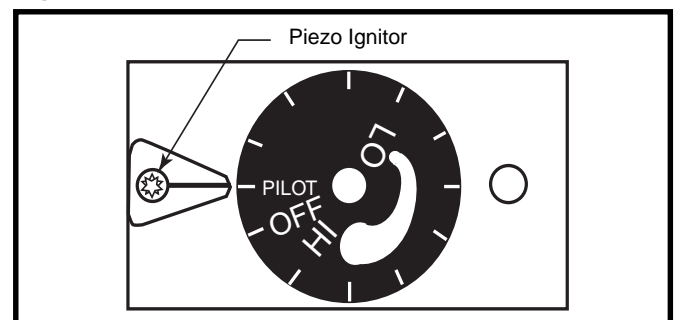

Fig. 23 UVS27M/ SIT Control Valve in Pilot position.
5. SIT (Manual Valve): Turn control knob counterclockwise  to "PILOT". Push in control knob all the way and hold in. Immediately light the pilot by pushing the ignitor button located to the left. Continue to hold the control knob in for about one (1) minute after pilot is lit. Release knob and it will pop back up. Pilot should remain lit. If it goes out, repeat steps 3 through 5. (Fig. 23)